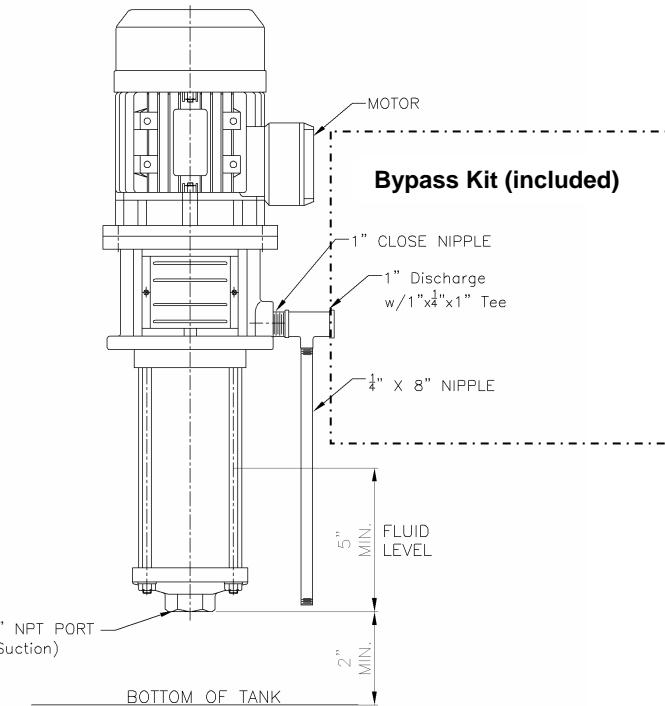

Figure 1
- Minimum and maximum liquid levels must be maintained for proper pump operation. See Figure 1.
- If operating at or below 8 gpm or where valves may be opened and closed periodically, you must use a bypass. This kit (Bypass Kit C-39695), See Figure 1, installs in the side of the discharge head and provides a fluid bypass when the pump is operated against a closed discharge thus preventing excessive heat build-up which will damage the pump.
- To ensure proper suction, fluid level should cover first two impellers (*5" from the suction end of the pump*). See *Figure 1*.